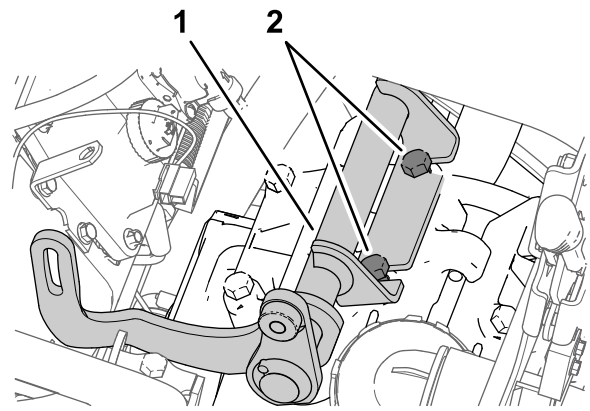

Figure 223
2. Align the alternator bracket between the bolts that you loosened and as shown in step 1 and the pump head Figure 223.